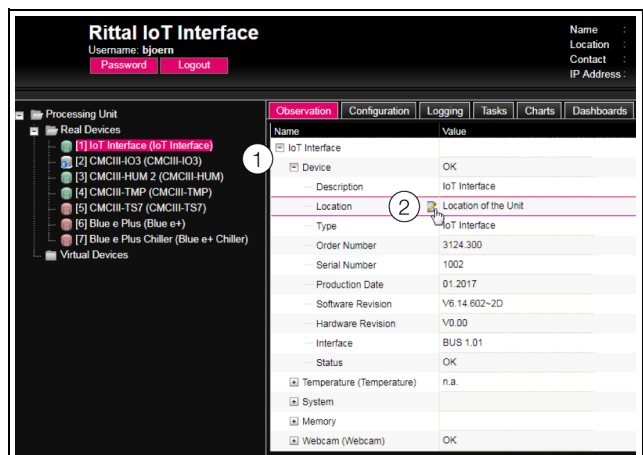

Fig. 23: Selection of a single parameter
- Expand successively the "IoT interface" and "Device" entries by clicking the "plus" character in front of the entry (fig. 23, item 1).
- Place the mouse cursor at the end of the first column in the "Location" row (fig. 23, item 2).